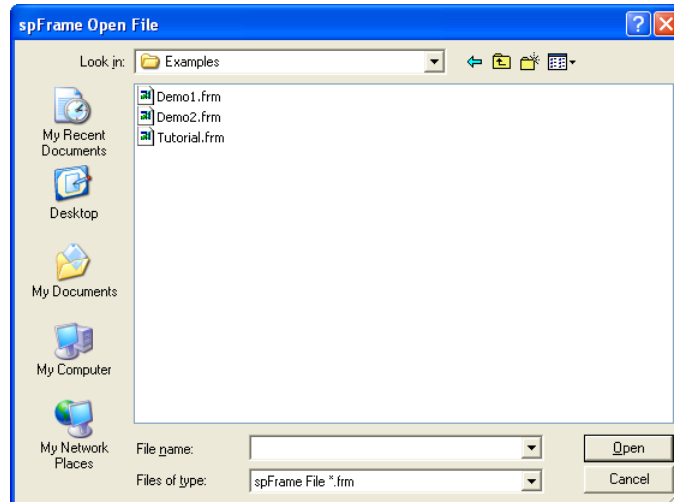

Figure 3-2 Open dialog box
- From the **File** menu, select **Open**. The dialog box of Figure 3-2 appears.